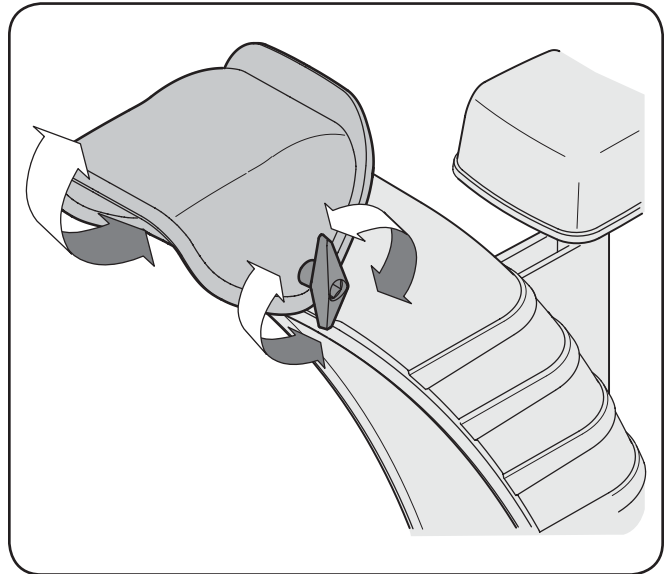

Figure 3-15
2. Pivot the chute upward or downward before retightening the wing knob. See Fig. 3-15.